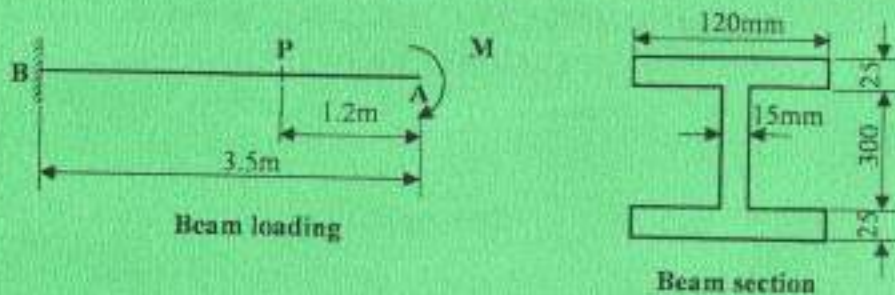

Fig. 1
(ii) Use Mohr's theorem to determine the slope and deflection for the cantilever beam shown in figure 1 at Y point (P) 1.2 m from the free end.